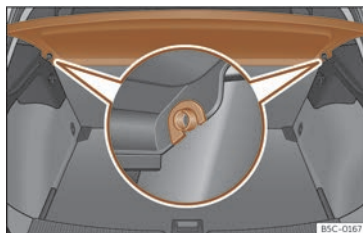

Fig. 172 In the boot: removing and installing the shelf.
- Remove the rear shelf from the side supports >>> **Fig. 172** by pulling it upwards and then take it out.
- Insert the cover horizontally so that the "recess" fits onto the axis of the supports >>> **Fig. 172** and press down until it engages.